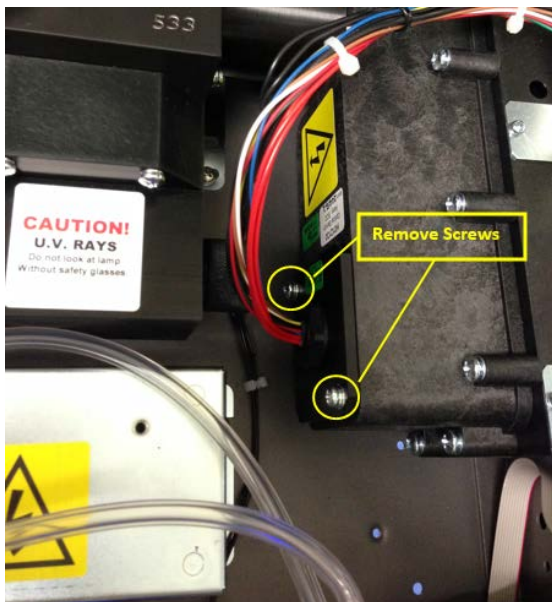

Figure 57 – Remove Desiccant Access Cap
2. Using an offset Phillips head screwdriver, remove the desiccant pack access cap from the PMT housing (Refer to Figure 57).